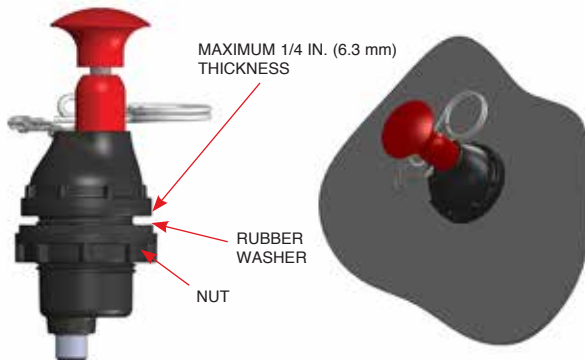

FIGURE 5-22
3. Remove nut and rubber washer from threaded boss and insert boss through drilled hole fitting index nub into slot. Install rubber washer and hand-tighten nut on threaded boss. See Figure 5-22.